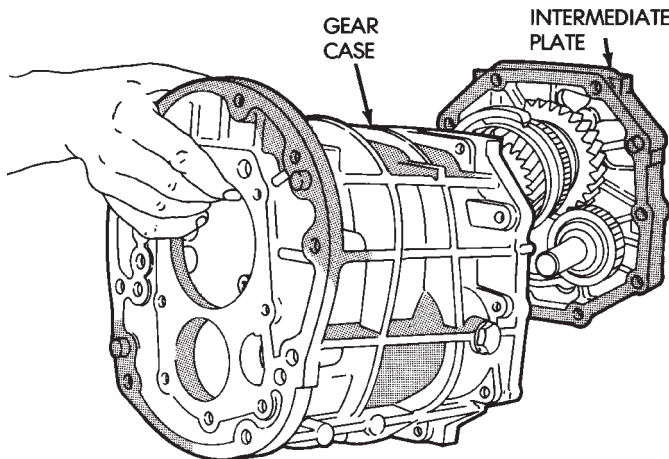

Fig. 32 Remove Intermediate Plate from Transmission Case
- (24) Separate the intermediate plate from the transmission case (Fig. 32).